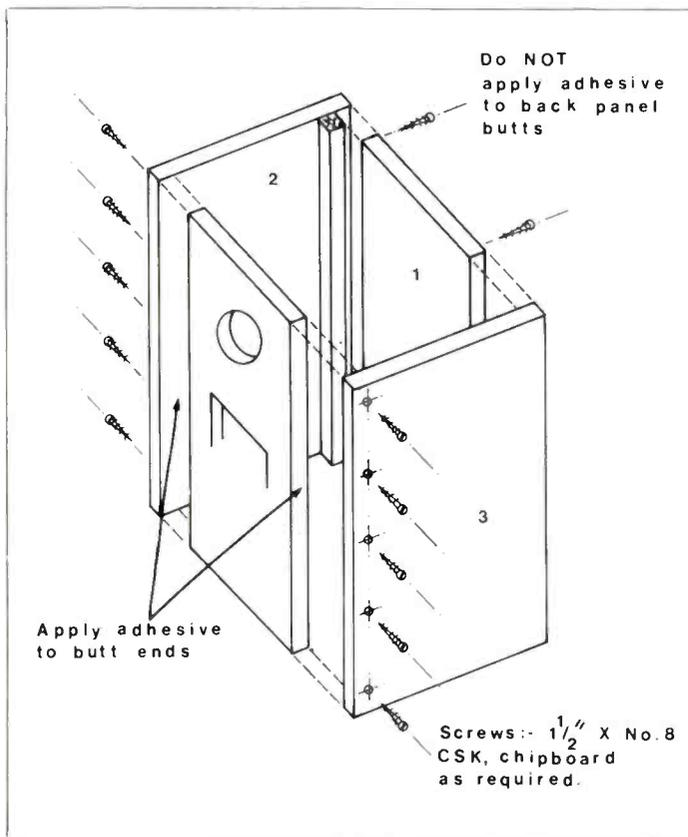
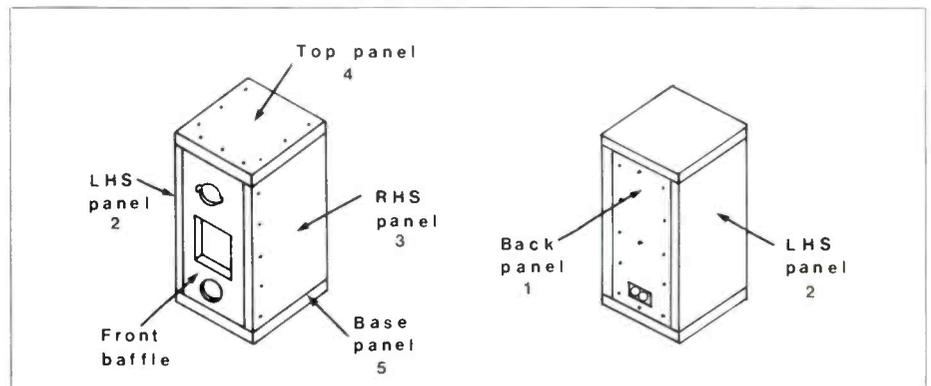

Figure 8. Assembling the panels.
Figure 9. Completed cabinet.
Figure 8 shows assembly details for the panels. Either large 'sash' clamps or chipboard screws can be used for holding panels together while the glue dries, but do not apply glue to the back panel (1). The use of screws is not recommended on pre-finished or laminated panels unless screw heads appeal to the constructor! Also note that plastic laminated edges butting up together cannot be glued successfully, although wood veneer will be O.K. On side panels (2) & (3), drill 5 clearance size holes along the front edge only, approximately 9mm in from the edge, and counter sink each hole. Apply a liberal amount of glue to the long edge of the front baffle on the right hand side and offer up panel (3). Insert screws and repeat the procedure for panel (2). Temporarily place back panel (1) between the side panels to space them apart evenly and tighten all screws. Remove excess glue exuding from the front joints with a damp cloth and while the assembly is drying, drill and counter sink end panels (4) & (5) as before. Do not drill along the back edge, only along the front and sides. Apply glue to the assembled side and front panels along the top edges, but not the back panel and offer up panel (4). Fit all screws and remove the back panel which may now need cleaning, and wipe away excess glue from all butt joints. Turn the assembly over and fit panel (5) as before. Figure 9 shows a completed cabinet.